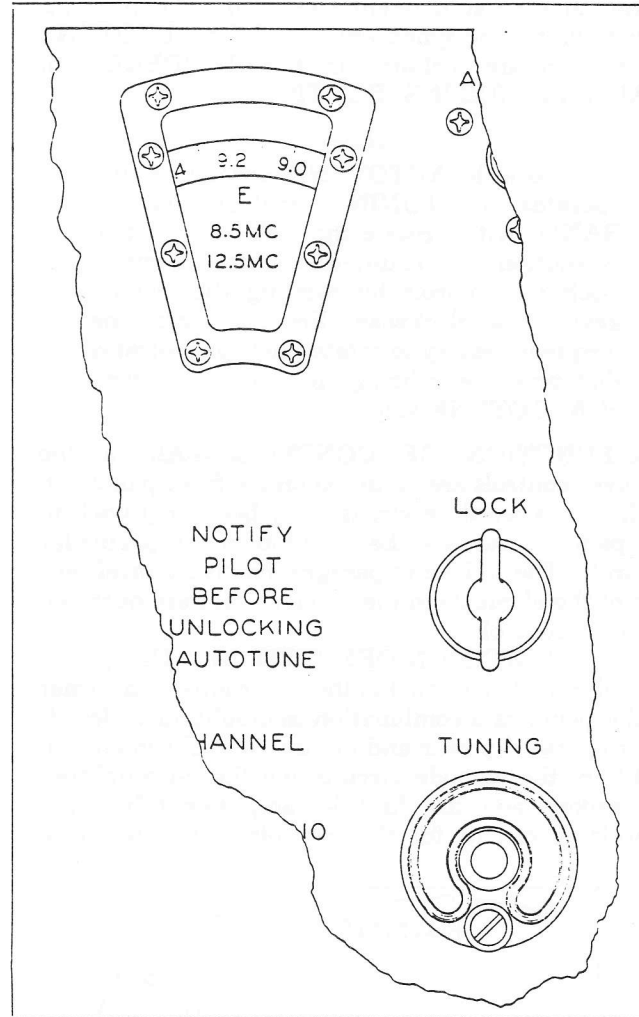

Figure 2-9. Frequency Indicator and Main Tuning Dial Details
(5) TUNING CONTROL.—(Refer to figure 2-9.) The r-f coupling, r-f amplifier plate tank, high-frequency oscillator grid and plate tank, and frequency multiplier plate tank circuits of this receiver are all tuned by varying the inductance of the circuits. The TUNING control, which is associated with the AUTOTUNE Multiturn Unit, operates a mechanism that controls the inductance in these circuits by determining the positions of slugs within the inductors. The control may be manually operated if the stop rings are unlocked. The control may be